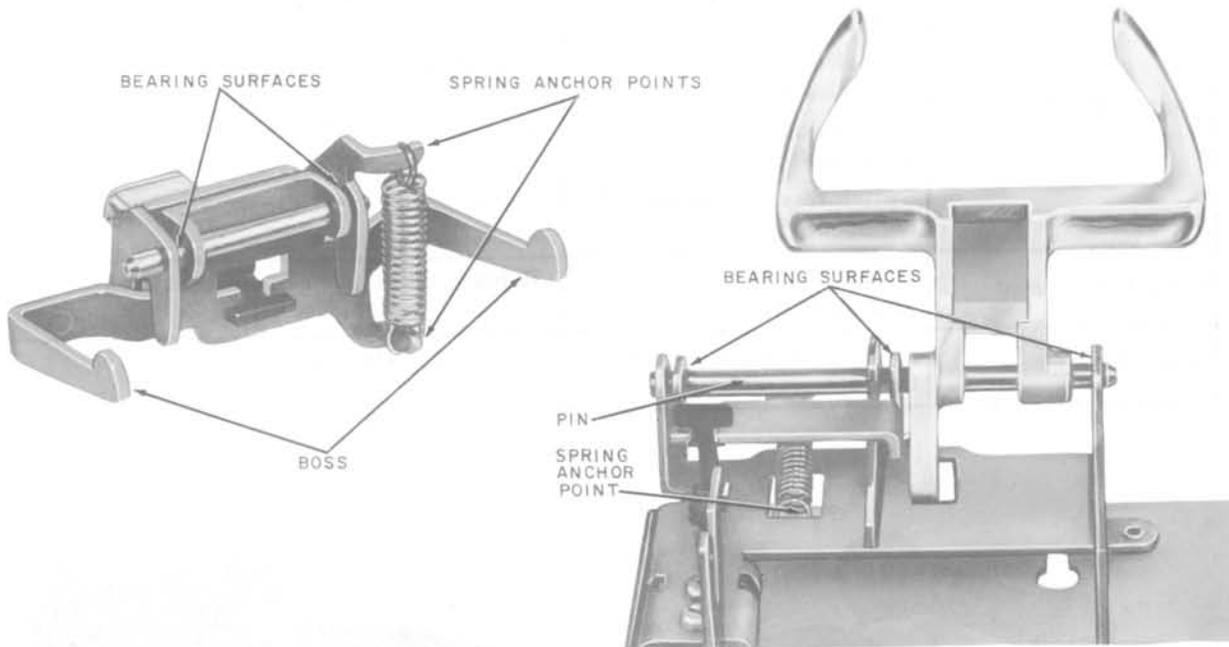

Fig. 14—Operating Bracket Switch Assemblies
- Clean bosses on operating bracket arms, spring anchor points, operating bracket, and shaft bearing points with KS-2423 cloth moistened in KS-7860 petroleum spirits and lubricate bearing surfaces with a No. 2 or softer graphite pencil (Fig. 14).